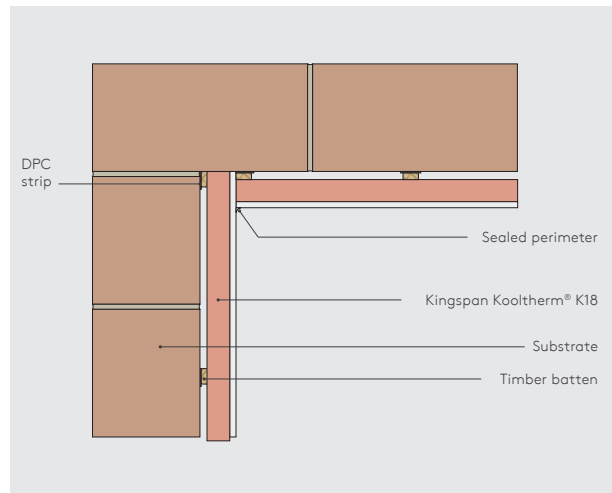

Figure 6 - Internal corner detail
- For external corners (including reveals), the lining should run past the corner and the insulating backing of Kingspan Kooltherm® K18 should be cut back to create a junction (see Figures 6 & 8). Sheets should be cut and rebated to allow a plasterboard / plasterboard joint at the angle.
- Ensure sheets are lightly butted and air gaps minimised to reduce the risk of cold bridging (see Figures 6 & 8). Any air gaps should be sealed with flexible sealant or equivalent, or a combination of flexible polyurethane foam and flexible sealant or equivalent.